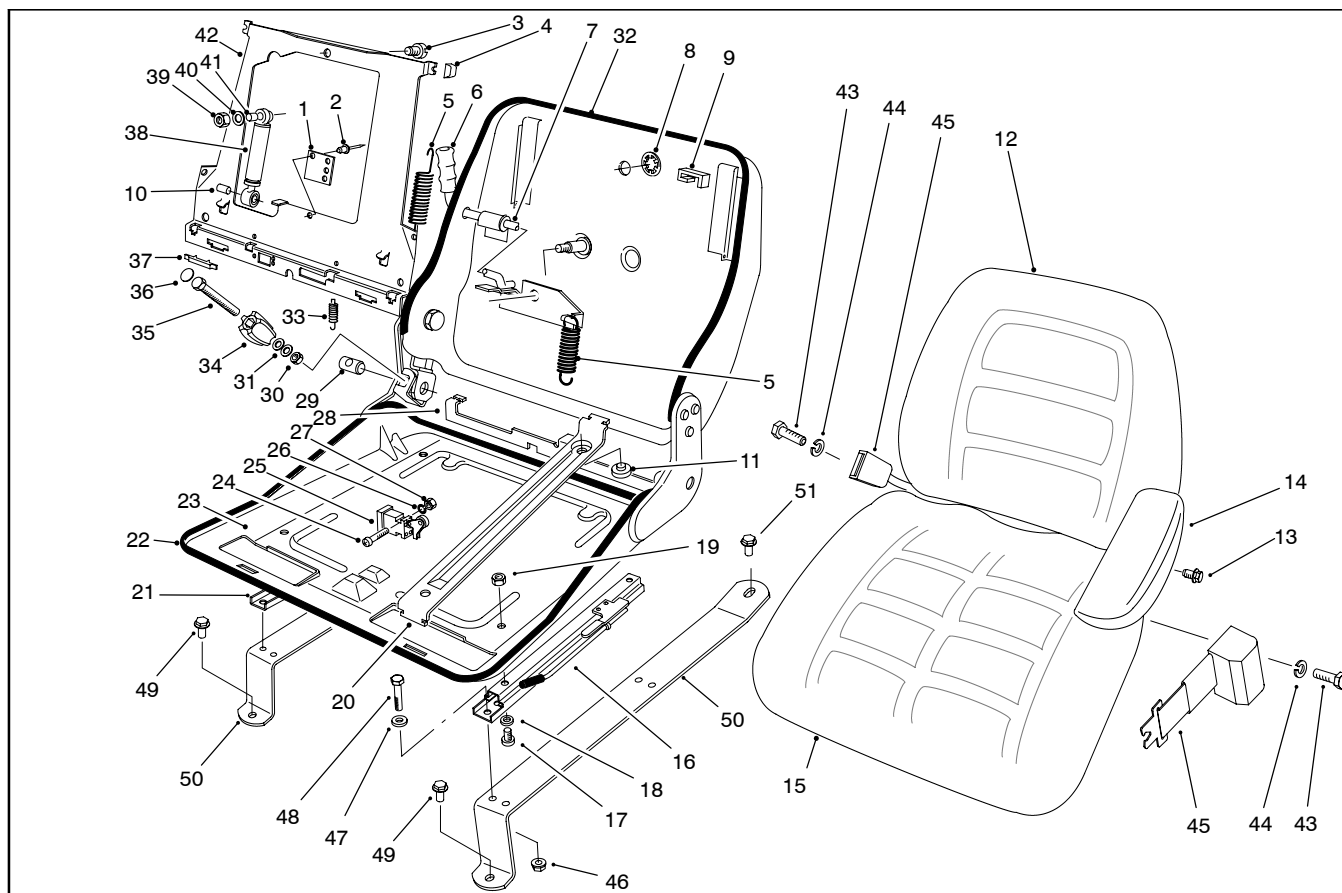

Figure 10
4. Remove seat parts as necessary to make repairs using Figure 10 as a guide.
1. Install any new seat parts using Figure 10 as a guide.